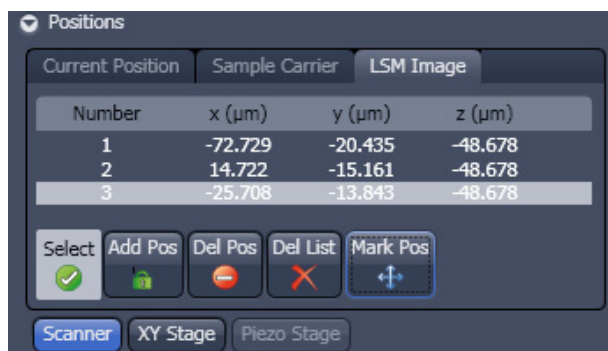
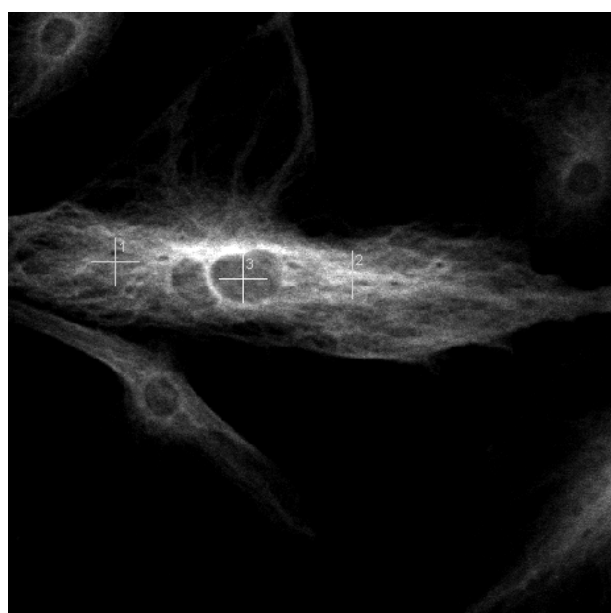

Fig. 48 Position list with 3 positions selected
Fig. 49 LSM scan image with 3 selected positions
- Move the cursor to the desired position in the scan image (drag and drop). Press the **Add Pos** button to add the position marked with the crossline to the **Positions** list (Fig. 48). A crossline is set at the selected cursor position in the image (Fig. 49). To select further positions click at the appropriate position in the image and then on **Add Pos**. If more than one position is selected the crosslines are getting current numbers. The Position list displays the numbers and coordinates of the positions in the **Number**, **x (µm)**, **y (µm)** and **z (µm)** display boxes.
- Press the **Mark Pos** button to fix the crosslines as overlay elements in the scan image (Fig. 49). The crosslines will also stay visible in the scan image if the **Select** button is deactivated. If you call up an image later you have to activate the overlay function and a line drawing element to display the crosslines.